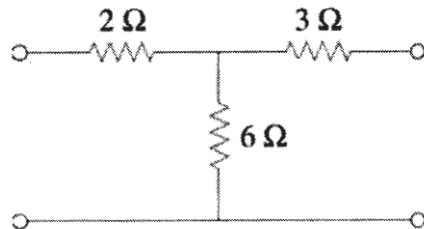

Fig. 1
b) Find h-parameters for the network shown in Fig. 1. [6]